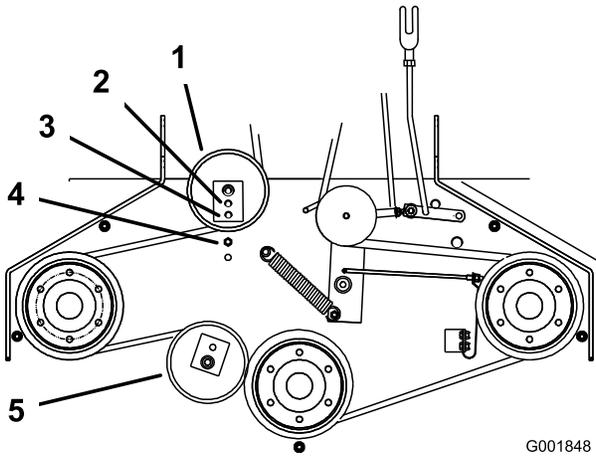

Figure 39
positioned to the middle or front hole (Figure 39). Use the hole that will give the correct adjustment.
- When the idler pulley is moved the belt guide must be moved. Move the belt guide to the front position (Figure 39).